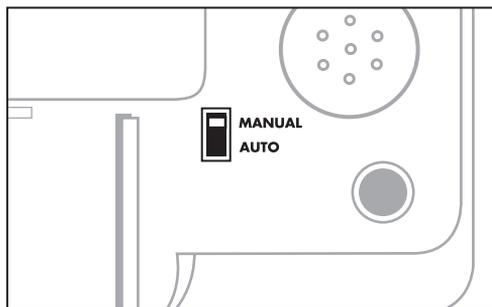

Figure 10 - Internal Amplifier On/Off
**Note: In standard use of the XL-25s, the amplifier turns off whenever you hang up the telephone. This is a useful feature if many people use the phone. If you want the amplifier to always remain on at the most recent volume setting, slide the switch on the bottom of the phone, as shown in Figure 10.**